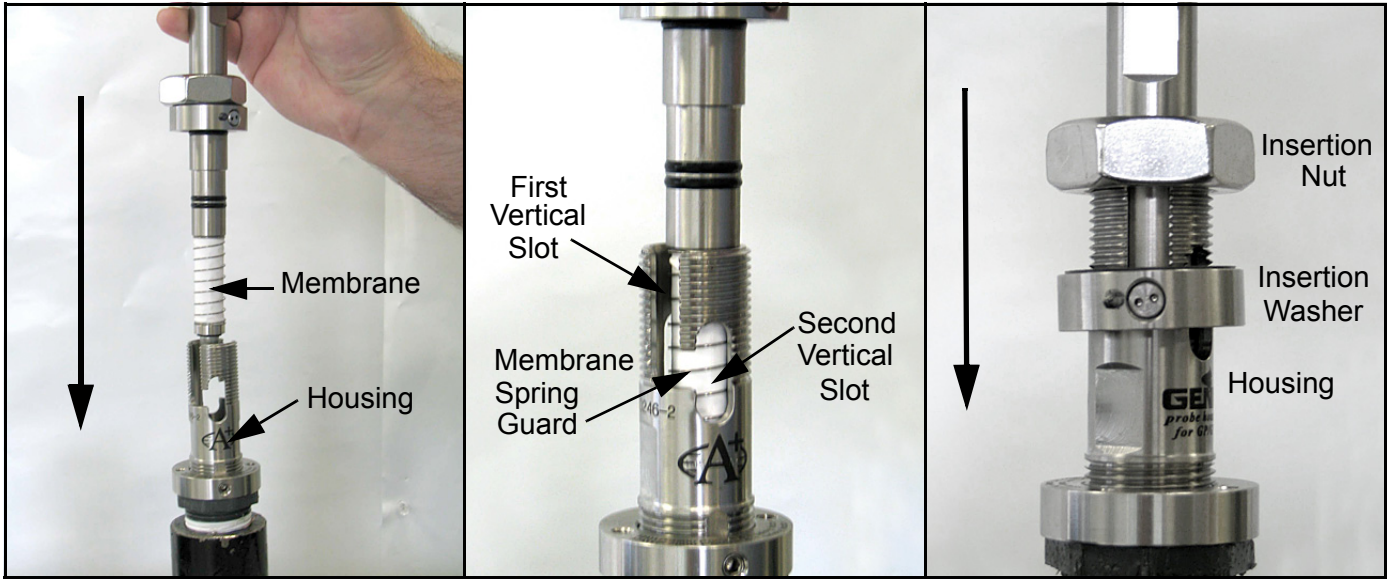

Figure 18: Installing the Probe
3. Refer to *Figure 18* below and position the membrane end of the probe above the installed housing. Slowly lower the probe into the housing. Avoid membrane contact with the upper section of the housing. **DO NOT APPLY DOWNWARD FORCE.** The probe should slide easily into the housing. Lower the probe only enough to thread the insertion nut one complete turn of thread engagement.